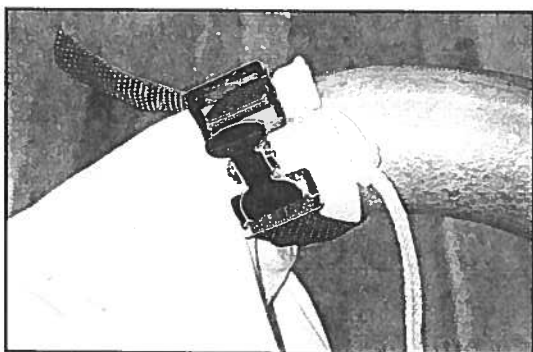

Fig. 07 Dust bag
3. The dust bag comes with a string tie (attached to the bag) and a nylon strap (supplied with machine). See Fig. 07. Attach the bag to the machine dust tube by using the tie and the strap as shown. (When using the string tie, it is advised to wrap the string around the bag neck at least twice for a good hold.)